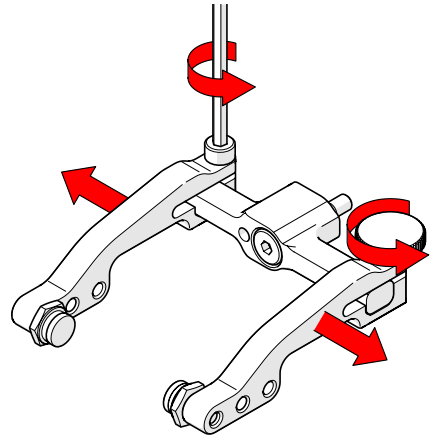

Fig. 205 - Remove arms
- Loosen the probe holder arm adjustment knob and arm clamp screw. Slide the arms from the yoke (Fig. 205).